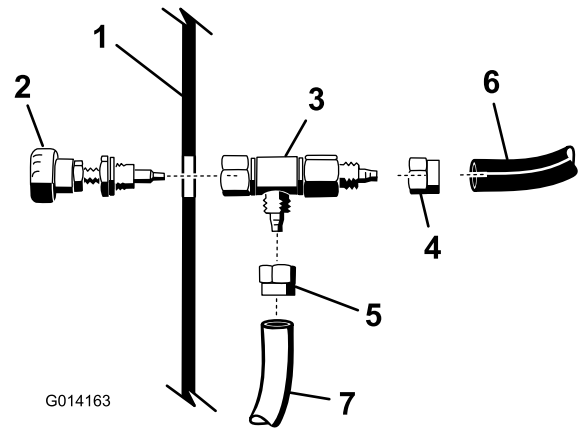

Figure 4
5. Loosen the nut that secures the knob to the tee fitting as shown in Figure 4.
6. Install the blue and white tubes from the foam hose under the dashboard to the regulating valve body as shown in Figure 4.